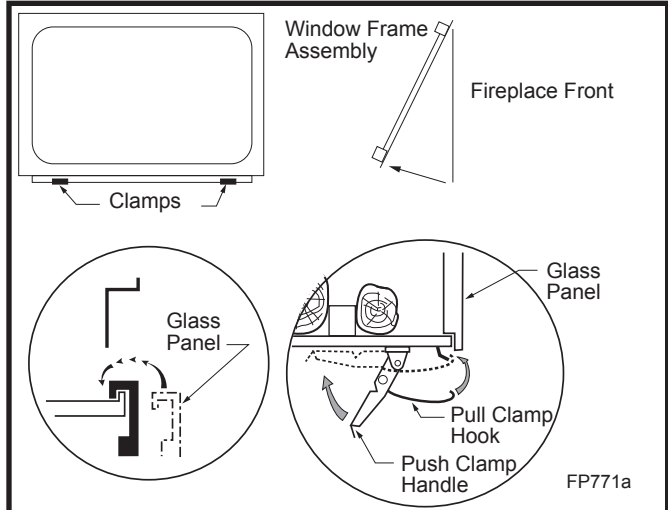

Fig. 47 Window frame assembly removal.
5. Release the two clamps along lower edge of the frame by pulling down on clamp handles. (Fig. 47)
Remove front glass. (Refer to “Window Frame Assembly Removal” Section, Fig. 47) Remove logs from packaging.